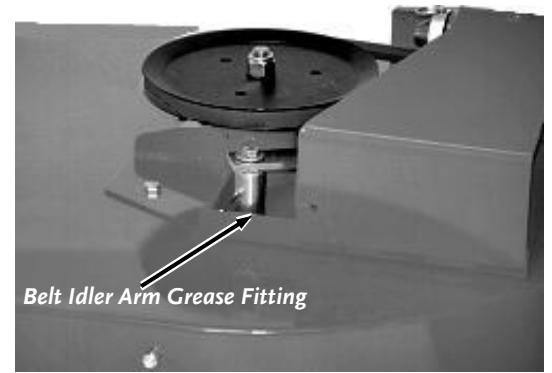

Figure 11
1. There is one Grease Fitting below the black Belt Guard that needs lubrication (**Figure 11**):